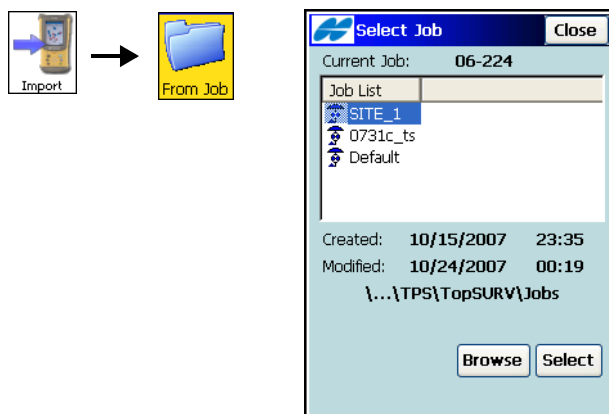

Figure 5-1. Select Job
1. Tap **Import ► From Job**. The *Select Job* screen (Figure 5-1 on page 5-2) displays and highlights the name of the job file in the Job List; or tap **Browse** to select the Job file from the disk, then tap **Select**.